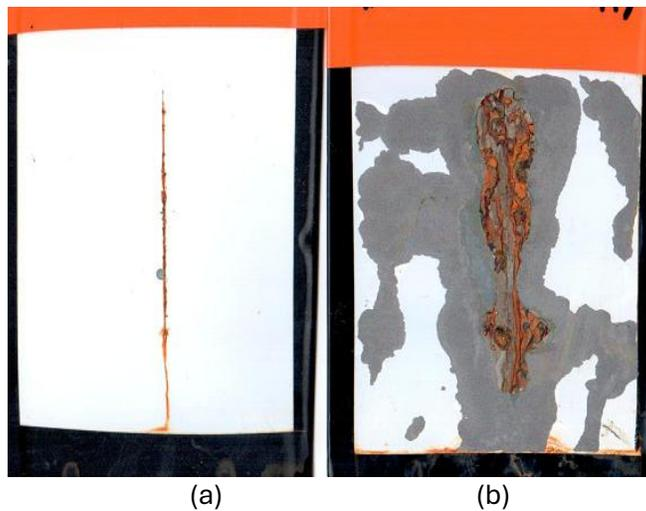

Figure 2. 168 h salt spray test results for epoxy painted CRS panels; (a) 1-step solvent-based SILSBOND cleaner-coater and (b) cleaned only
2) 1-step solvent-based hybrid cleaner coater. A SILSBOND concentrate was directly diluted with an organic solvent. Oily CRS panels were immersed in the above solution for 60 sec and then dried in the ambient. After that, the CRS panels were coated with an epoxy primer. Figure 2 shows the test panels after 168-hr salt spray test. The one cleaned/pretreated with the SILSBOND cleaner coater (Figure 2(a)) exhibits no paint loss in the scribe, while the cleaned only panel (Figure 2(b)) has massive paint loss on the entire panel surface.